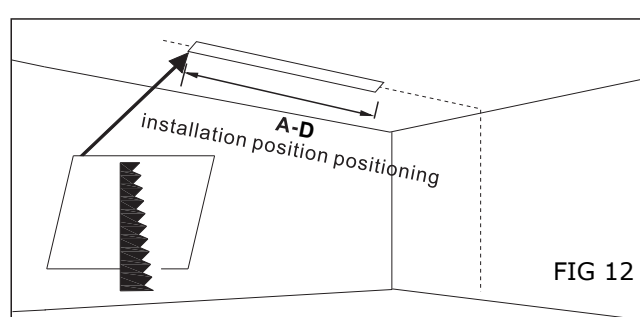

FIG 12
2. Before installing please refer to the table for track cut out size, installation & marking position (Fig 12).